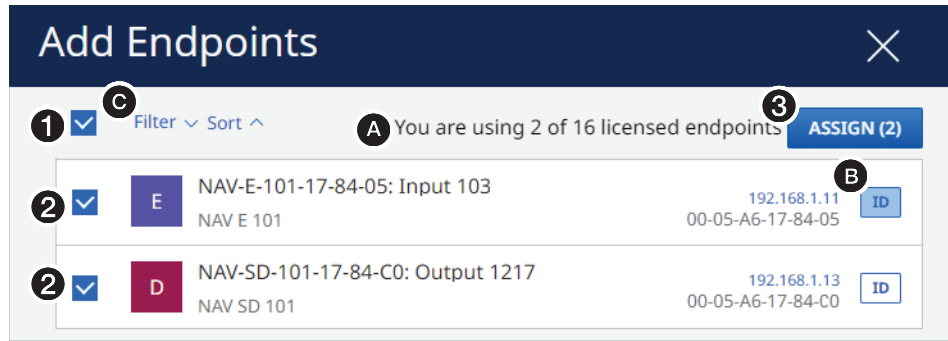

Figure 26. Assign Endpoints
2. Click **Endpoints** (❷).
3. Click **Discover Endpoints** (❸). The Assign Endpoints page opens (see figure 26 on page 26).
- A banner advises you of how many endpoints you are using and how many for which you are licensed (see figure 26, **A**).